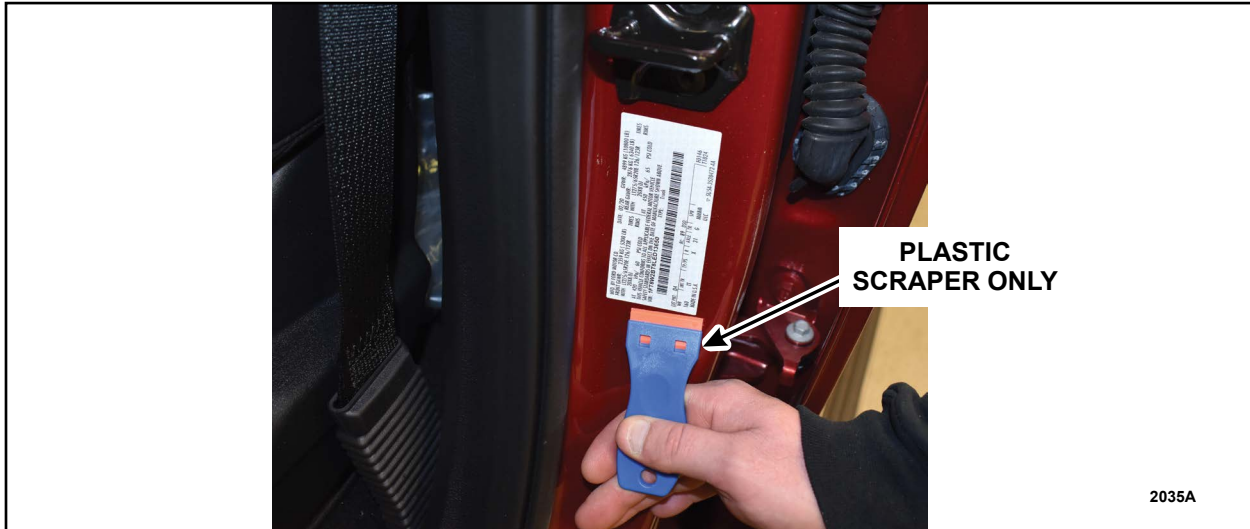

FIGURE 8
36. Remove with a suitable plastic razor blade scraper that will not damage the paint or clear coat of the vehicle. See Figure 8.